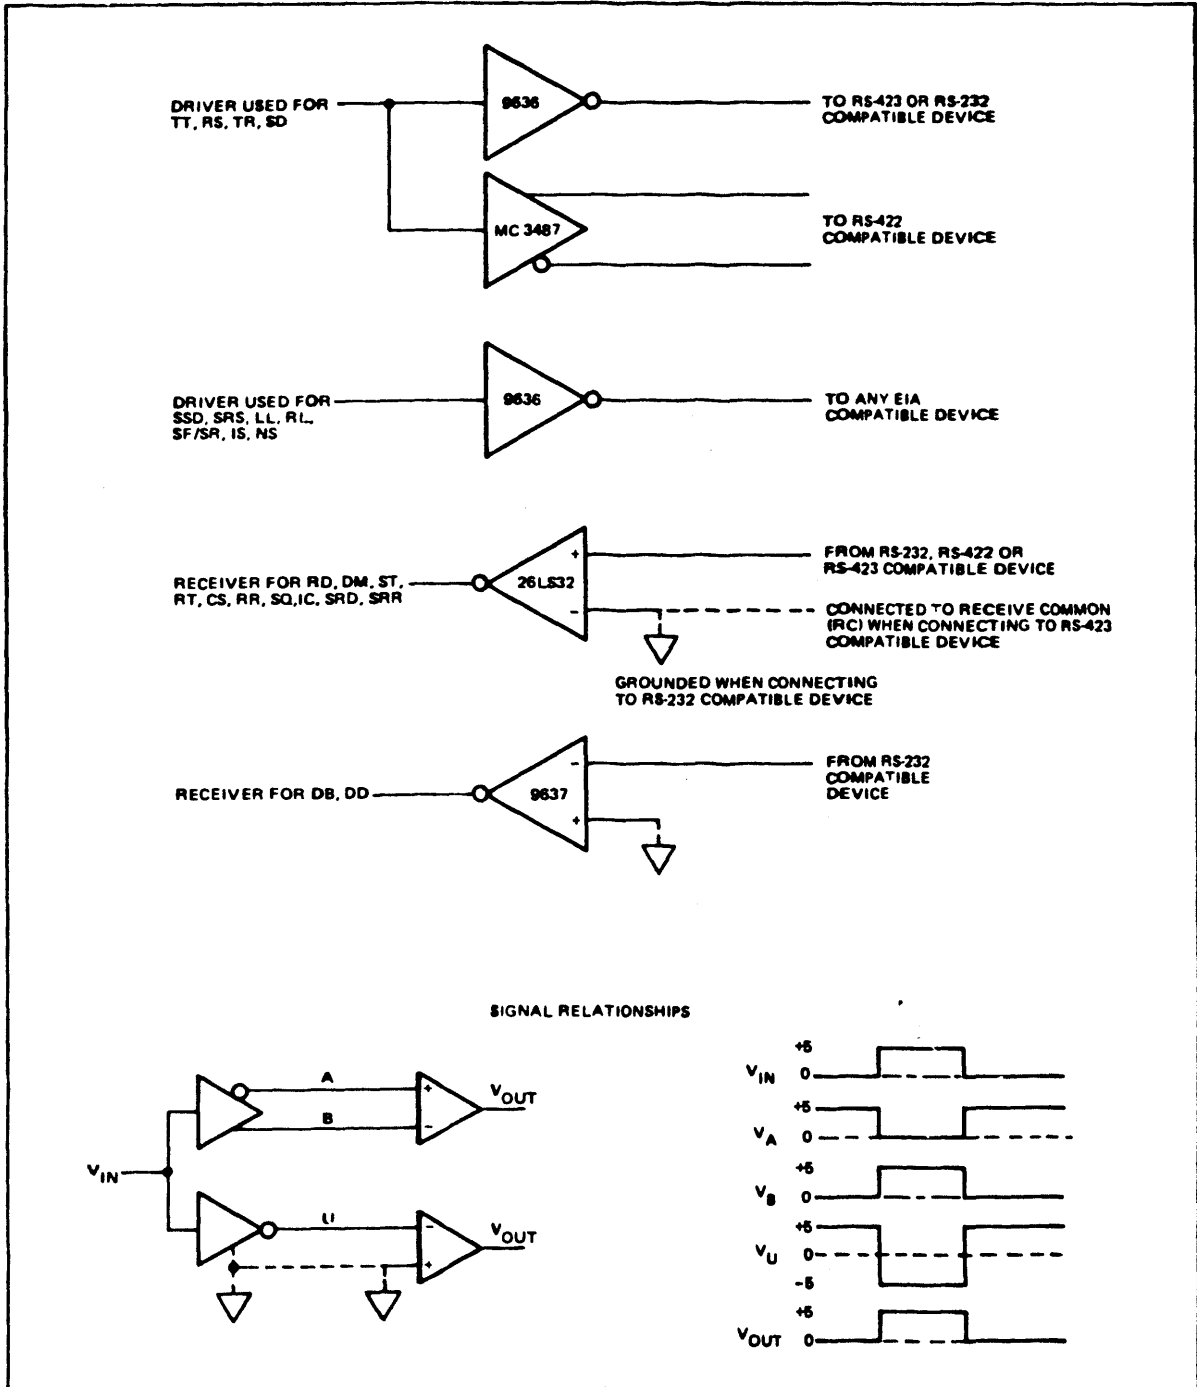

Figure 4-2. Driver/Receiver Combinations
The EIA RS-449 standard consists of a combination of single-ended (EIA RS-423) and differential (EIA RS-422) drivers and receivers. The card uses both single-ended and differential drivers on some lines and only single-ended drivers on others. All of the receivers on the card are differential although some are connected in such a way that they can only receive single-ended signals. The manner in which each signal is driven or received is illustrated in Figure 4-2.
When a differential receiver is connected to a single-ended driver, the remaining input is connected to ground (RS-232) or to the Receiver Common (RC) circuit of the driving device (RS-449). The various driver/receiver combinations are illustrated in Figure 4-2. The combination used depends on the modem requirements. The receivers on the card can withstand an input voltage range of +/- 25 volts and can operate with a maximum common mode input voltage of +/- 7 volts.